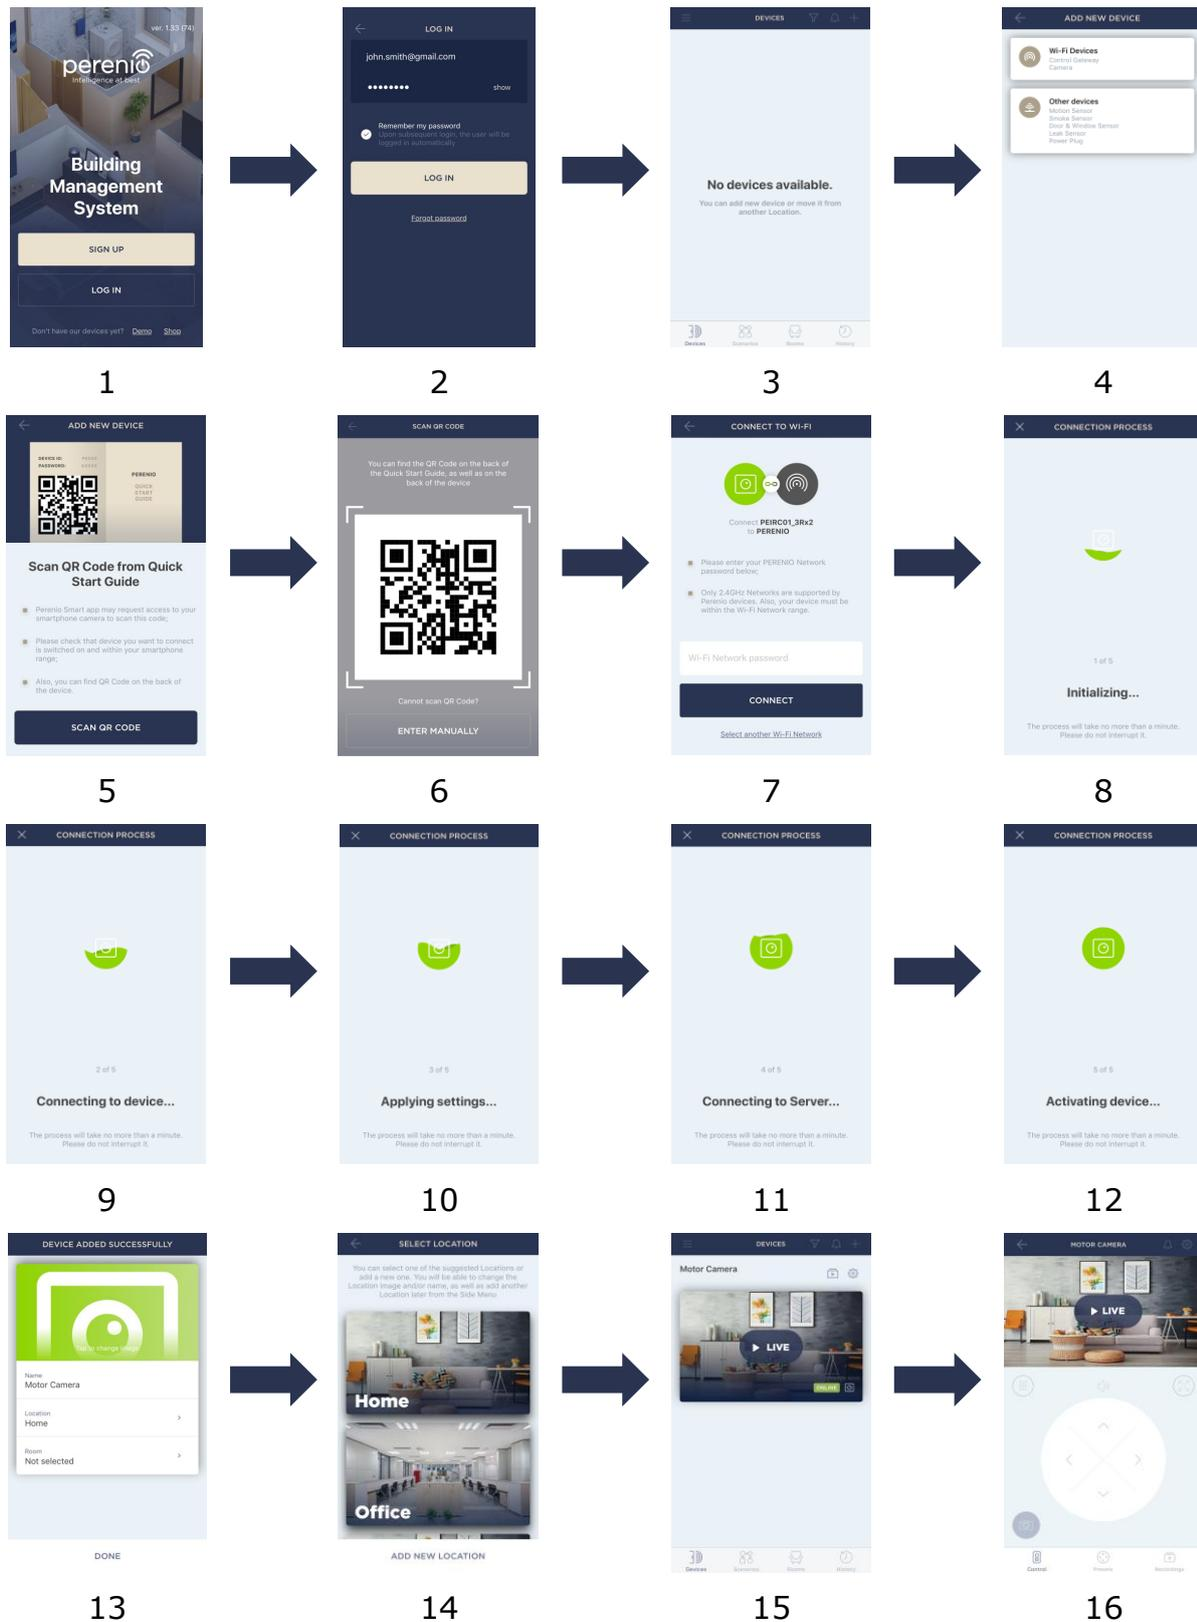

Figure 8 – Add new device procedure (The Camera activation process)
- **For existing Users:** After login to the Perenio Smart App User Account, click on the "+" icon in the upper right corner of the Devices tab, select "Add new device" and then the "Motor Camera" device in the list (See Figure 8).